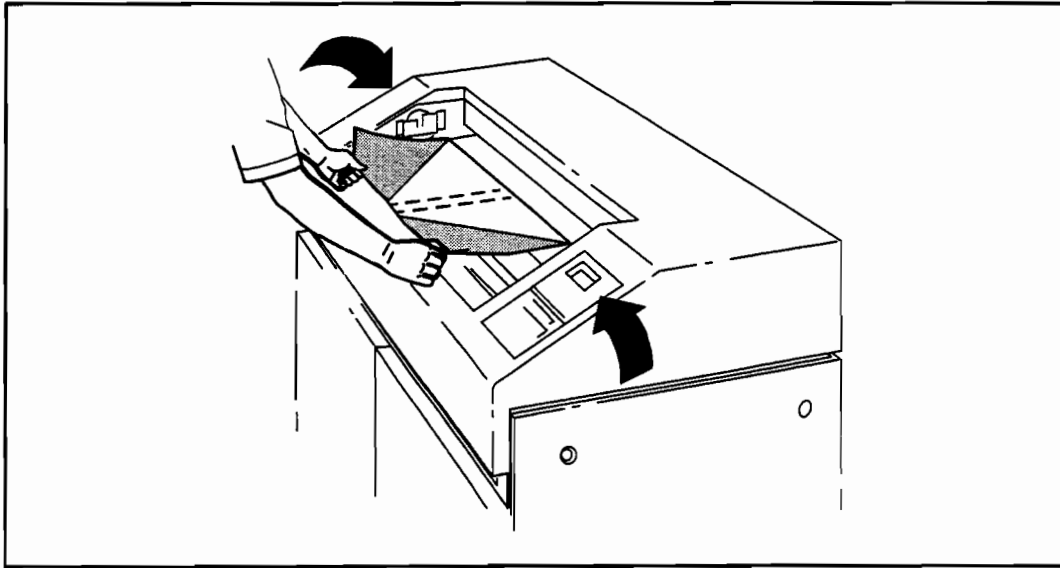

Figure 7-7. Folding the Media into a "V" for Cutter Slip Clutch Adjustment
6. Pull approximately 1/2 meter of media back through the cutter toward the front of the plotter and fold the media into a "V". See Figure 7-7. Fold the end of the media over several times and tape the folded end.